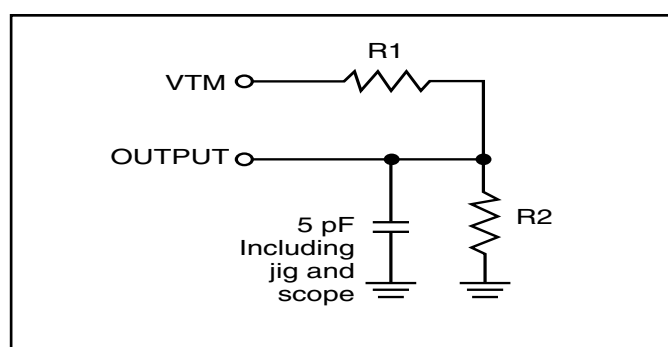

Figure 2.
- Tested with the load in Figure 2. Transition is measured  $\pm 500$  mV from steady-state voltage. Not 100% tested.